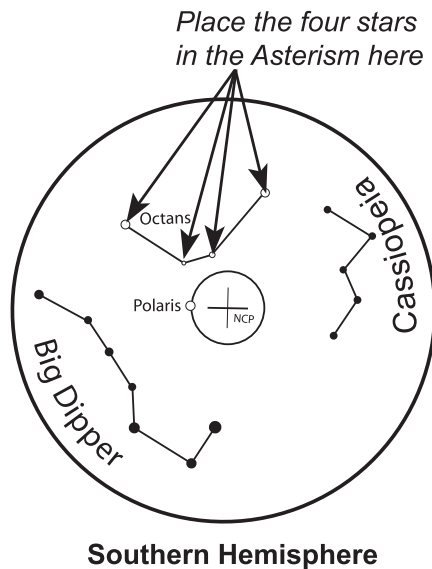

Fig. 3.2a
Once the mount is powered up and the polar scope is illuminated, the pattern in the above figure (Fig. 3.2a) should be visible in the field of view (FOV) of the polar scope. If the image appears blurred, rotate the knurled ring of the polar scope's eyepiece to focus.
- 2. For observing in Southern Hemisphere:** In the FOV of the polar scope, locate the 4 dim stars (Around Magnitude 5 to 6) which form the pattern like the "Octans" drawing in the polar scope (refer to Fig. 3.2a). Loosen the R.A. clutch and rotate the R.A. axis to align the orientation of the "Octans" drawing to the 4 stars. Then use the jack screw and the azimuth adjustment knobs to move the 4 stars to the 4 small circles of the "Octans" drawing.
As the Polaris is not located exactly at the North Celestial Pole, we can see it orbits the North Celestial Pole in a polar scope. The large circle seen in the center of the pattern in Fig. 3.2a is a representation of the Polaris' orbit around the North Celestial Pole. When performing the polar alignment process, it is necessary to determine the orientation of the Polaris on the circle. We can use the following 3 methods to get the orientation:
3. At the end of the initialization of the SynScan hand control, after entering the proper local longitude, latitude, date, time, and daylight-saving time, the SynScan hand controller will display the message: "Polaris Position in P.Scope=HH:MM". Imagine the larger circle in Fig. 3.2a as a clock's face with 12:00 at the top, with the current time pointing to the "HH:MM". The orientation of the hour hand of the clock represents the orientation of the Polaris in the polar scope. Put the Polaris to the same orientation on the large circle to finish the polar alignment.